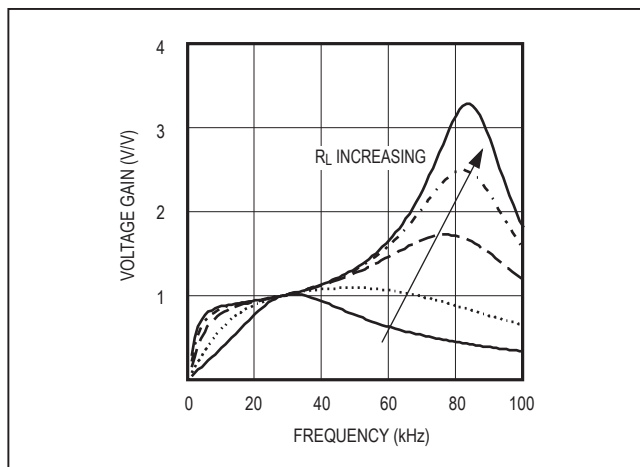

Figure 8. Frequency Response of the Resonant Tank
Figure 8 shows the frequency response of the resonant tank's voltage gain under different load conditions. The primary series capacitor is 1 μ F, the secondary parallel capacitor is 15pF, the transformer turns ratio is 1:78, and the secondary leakage inductance is 260mH. Notice that there are two peaks, f_S and f_P , in the frequency response. The first peak, f_S , is the series resonant peak determined by the secondary leakage inductance (L) and the series capacitor reflected to the secondary (C'_S):